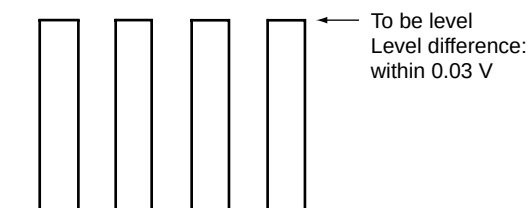

Fig. 3-6
- Adjust the SUB PHASE so that all the signal levels of the TP503 (B IN) will be the same. (Fig. 3-6)